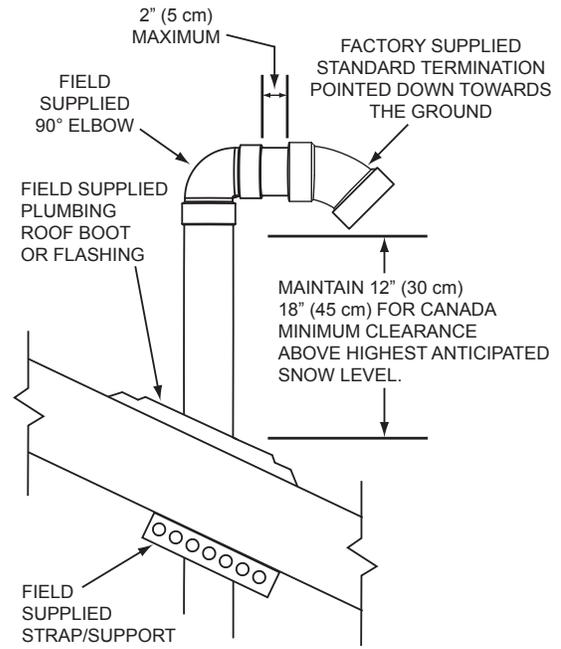
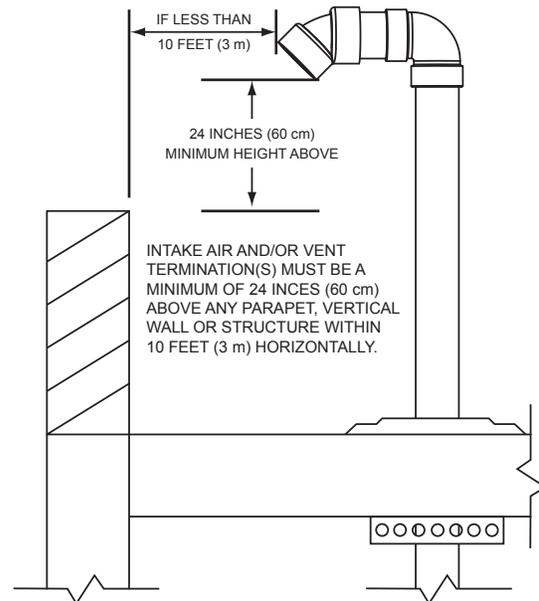
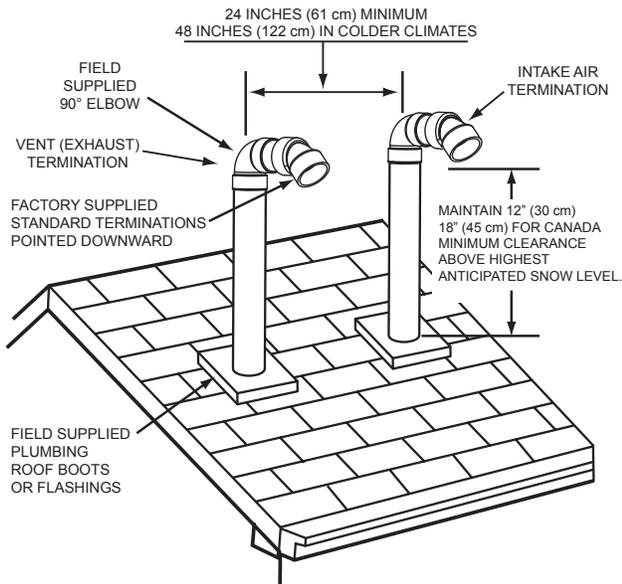

Figure 22. Vertical Termination(s) Installation
Figure 23. Vertical Termination Flat Roof Clearance - Intake Air and/or Vent (exhaust)
Figure 24. Vertical Termination - Direct Vent
2. If installing only the vent (exhaust) piping in a Power Vent configuration vertically through the roof; ensure that all exterior vertical clearance requirements shown in *Figure 22* (page 26) and *Figure 23* (page 26) are being maintained. These clearances and those cited by local and national codes must be maintained.
Note: On flat roof installations the vent termination must be a minimum of 24 inches (60 cm) above any parapet, vertical wall or structure within 10 feet (3 m) horizontally. See *Figure 23*.
3. If installing both intake air and vent piping in a Direct Vent configuration vertically through the roof; ensure that all exterior vertical clearance requirements shown in *Figure 22* (page 26) and *Figure 23* (page 26) are being maintained. These clearances and those cited by local and national codes must be maintained.
Note: On flat roof installations the intake air and the vent terminations must be a minimum of 24 inches (60 cm) above any parapet, vertical wall or structure within 10 feet (3 m) horizontally. See *Figure 23* (page 26).
- The vent termination must be oriented facing downward as shown in *Figure 22* and *Figure 23* (page 26).
- The bottom edge of vent termination must be a minimum of 12 inches (30 cm), 18 inches (45 cm) in Canada, above average or expected snow level as shown in *Figure 22* (page 26).
- The intake air and vent pipes must penetrate the same side of the roof as shown in *Figure 24* (page 27).
- The intake air and vent terminations must be oriented facing downward and in the same direction as shown in *Figure 24* (page 27).
- The intake air and vent terminations must have a minimum separation of 24" (61 cm) measured on center line as shown in *Figure 24* (page 27). In colder climates this separation should be increased to at least 48 inches (122 cm).
- The bottom edge of the intake air and vent terminations must be a minimum of 12 inches (30 cm), 18 inches (45 cm) in Canada, above the average or expected snow level as shown in *Figure 22* and *Figure 24* (page 27).
- The distance between the closest vent and intake air terminations must be a minimum of 24 inches (61 cm) as shown in *Figure 24* (page 27). In colder climates this separation should be increased to at least 48 inches (122 cm).
8. Suspend the pipe(s) through center of hole using field supplied metal strapping or equivalent support materials as shown in **Figure 22** (page 26).
9. Slide a roof boot or equivalent flashing over the pipe and secure roof boot or equivalent flashing to roof and seal around the flashing as shown in **Figure 22**, **Figure 23** (page 26), and **Figure 24** (page 27).
10. Install the factory supplied intake air and/or vent termination(s) using field supplied pipe and one field supplied 90° elbow as shown in **Figure 22** (page 26). The short section of pipe that connects between the field supplied 90° elbow and the factory supplied termination must not be excessive in length. The exposed portion of this pipe shall be no more than 2 inches (5 cm).